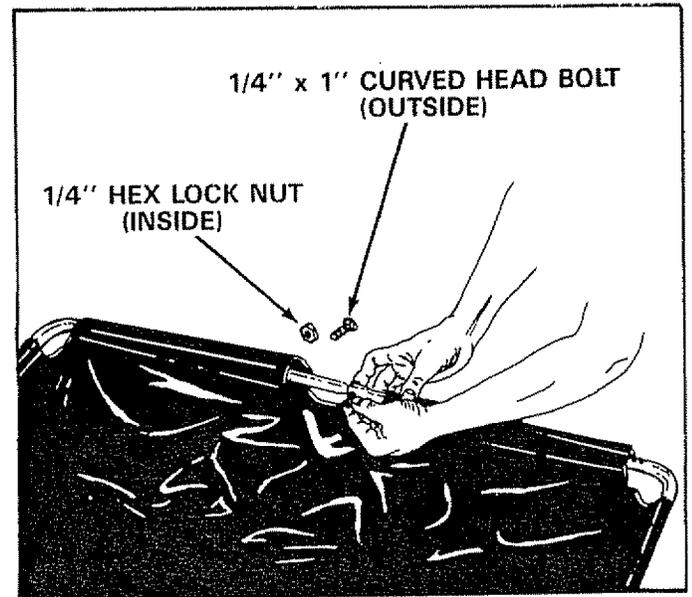

FIGURE 12
3. Secure the upper tubes with 1/4" x 1" curved head bolt and hex lock nut. See figure 12.